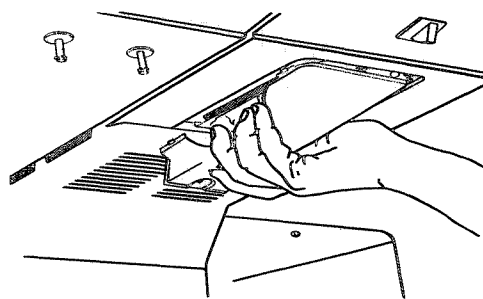

Figure 38
- Unscrew screw at back center of light cover and pull light cover straight down. (There are small supports on each side to hold cover in place that need to release.) See Figure 38.